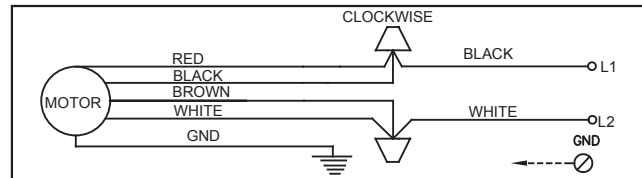

Figure 6
13. If a remote speed control or reverse switch is to be used refer to the Instruction Manual included with that controller for proper installation and wiring. Refer to Figures 6 and 7 for proper installation and wiring if no remote speed control or reverse switch is to be used.